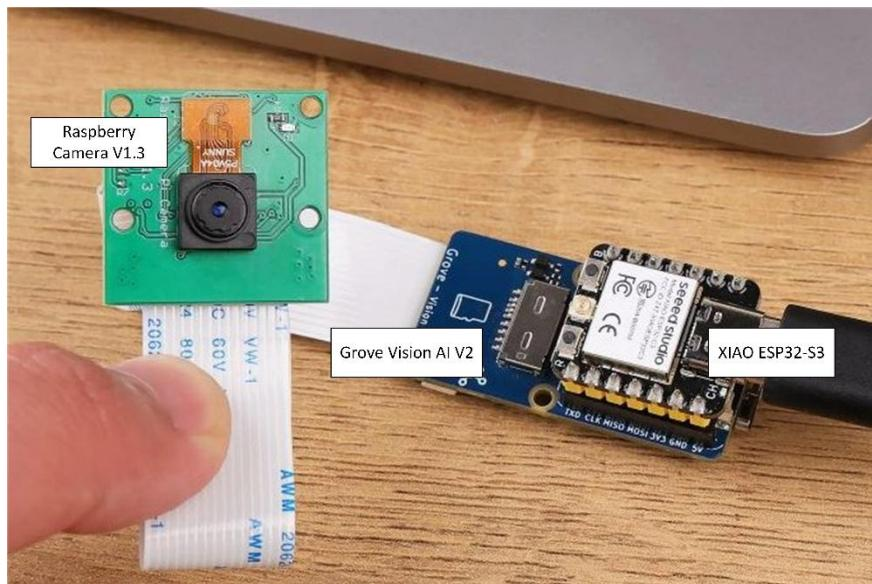

Figure 1. Principal components
1. Attach the **Raspberry Camera V1.3 or 2.0** to the **Vision AI module** (see Figure 1. Principal components)